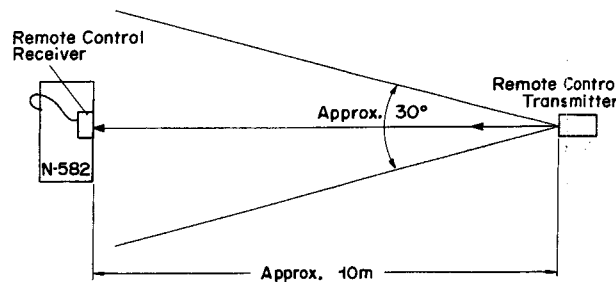

Fig. 15.3.4
- (1) Connect the Receiver to the Remote Control Socket of the N-582.
- (2) Press each control switch of the Transmitter and check to insure whether every function operates accurately.
- Note: Possible operating zone of the Transmitter is shown in Fig. 15.3.4.